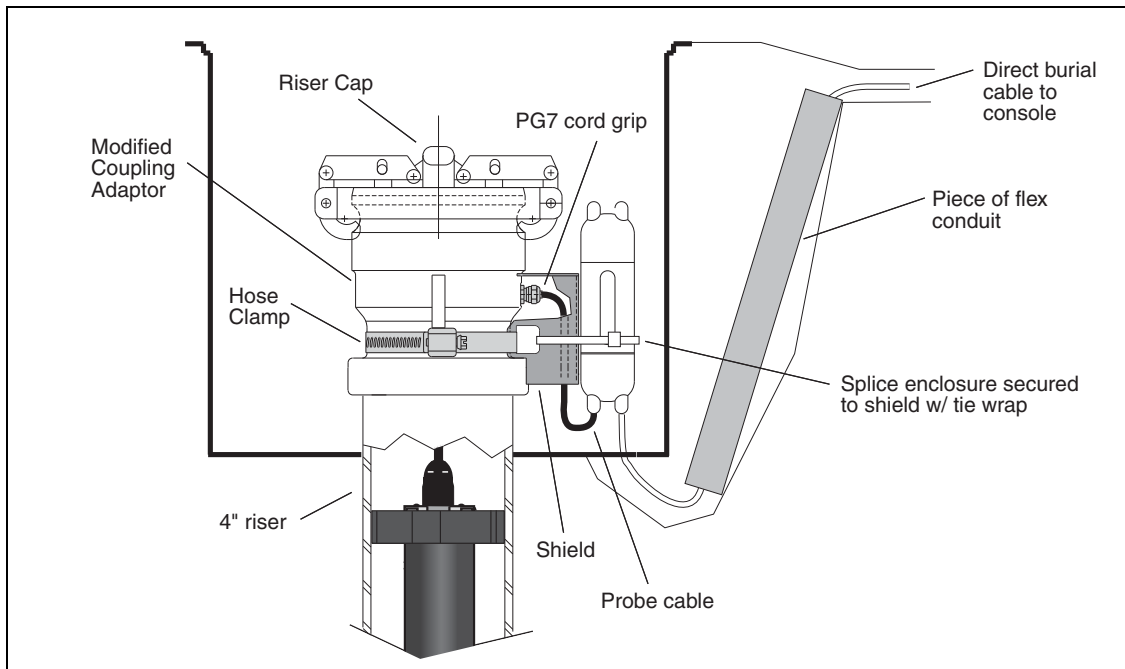

Figure 18. Mag Probe Vapor Extractor Riser Installation - W/Coupling Adaptor
12. Position the Shield-Fitting over the PG7 cord grip and secure with the hose clamp (see Figure 18 on page 24).